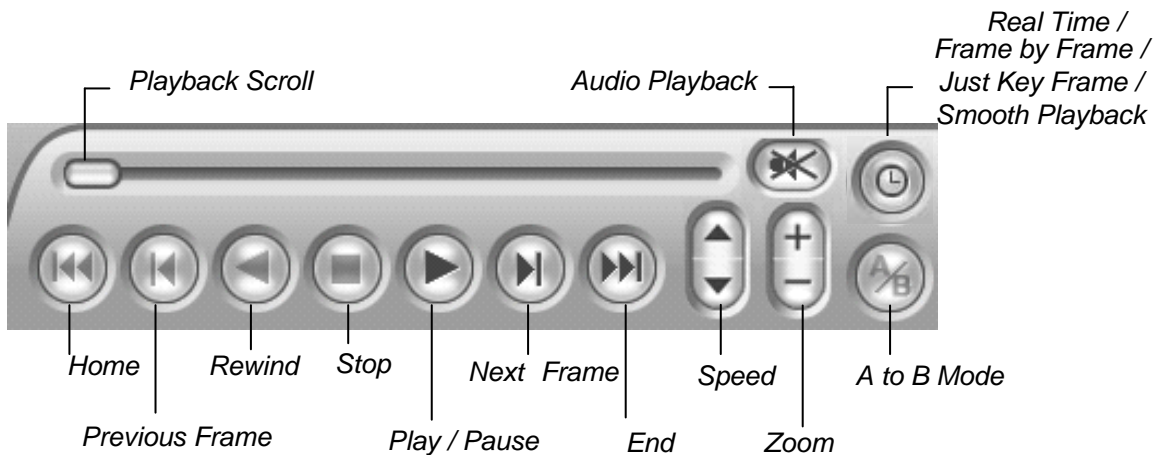

Figure 4-4
1. To set the starting frame A, click the **A to B Mode** button (Figure 4-4). The message *A to B Mode (Set A)* appears on the screen.